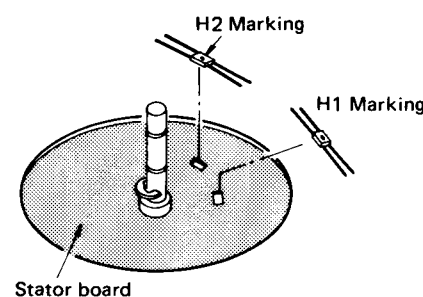

Fig. 8
*The Hall element should be installed with the marking side up as in Fig. 8.